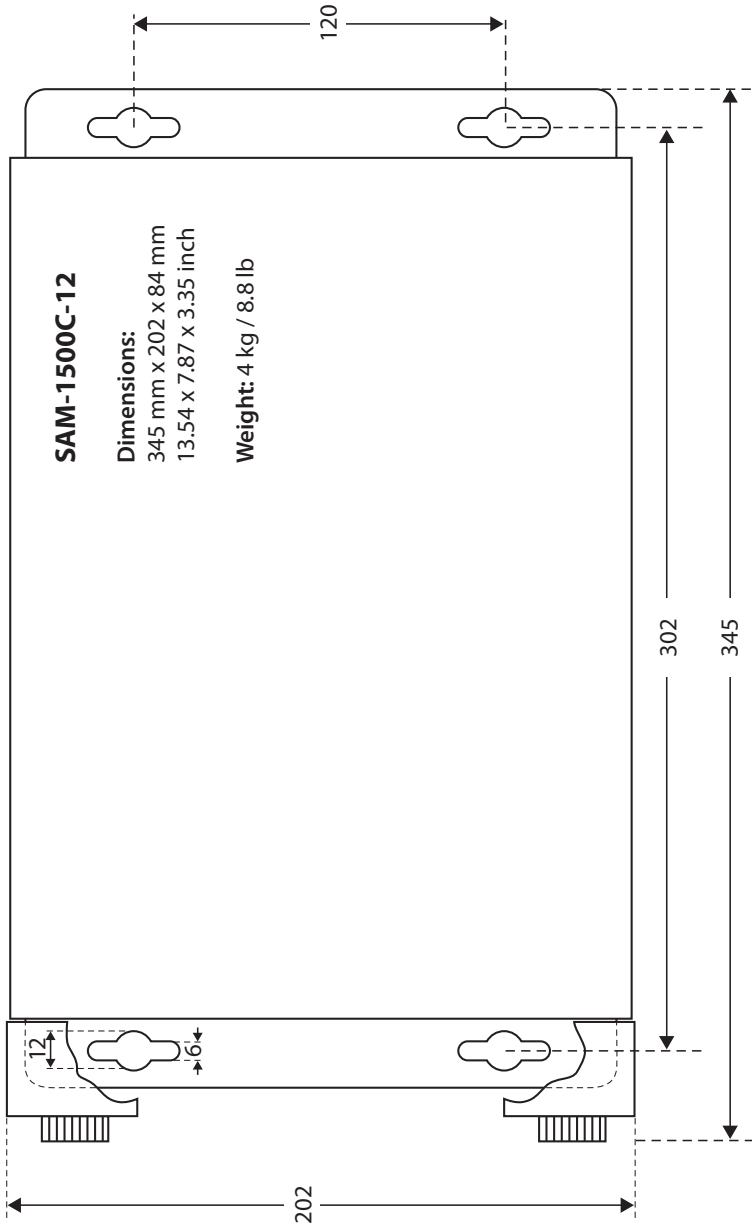

Fig 3.2 Dimensions & Mounting Arrangement
Two (2) flanges on the bottom with 2 mounting slots each are provided for mounting, as shown in Fig 3.2.